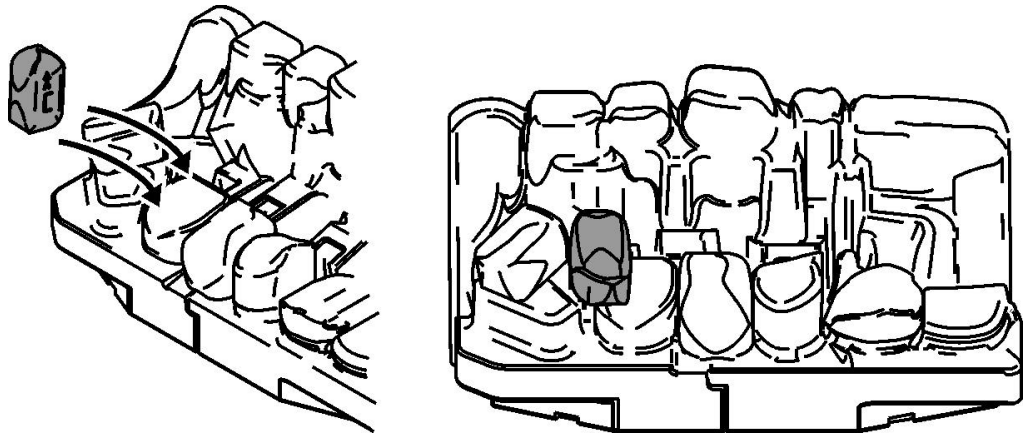

Figure 5. Second row "Coal C"
**7.** Hold coal 'C' upright with the arrow pointing to the top. Locate coal 'C' as shown in figure 5.